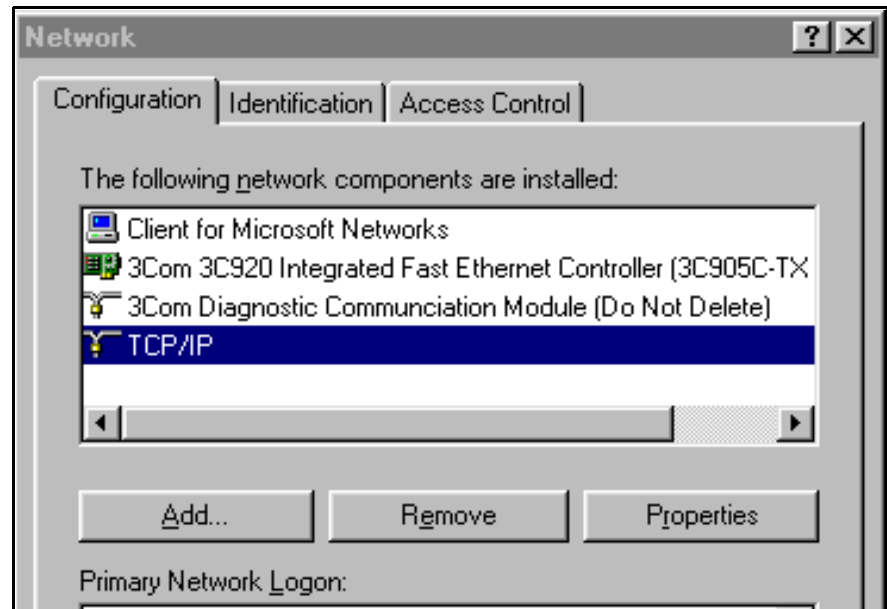

Figure 8-2 Network Window
- 3) At "Network" window (see Figure 8-2) click on *Configuration* Tab, scroll down to Laptop TCP/IP Ethernet Adapter, and select *Properties*.